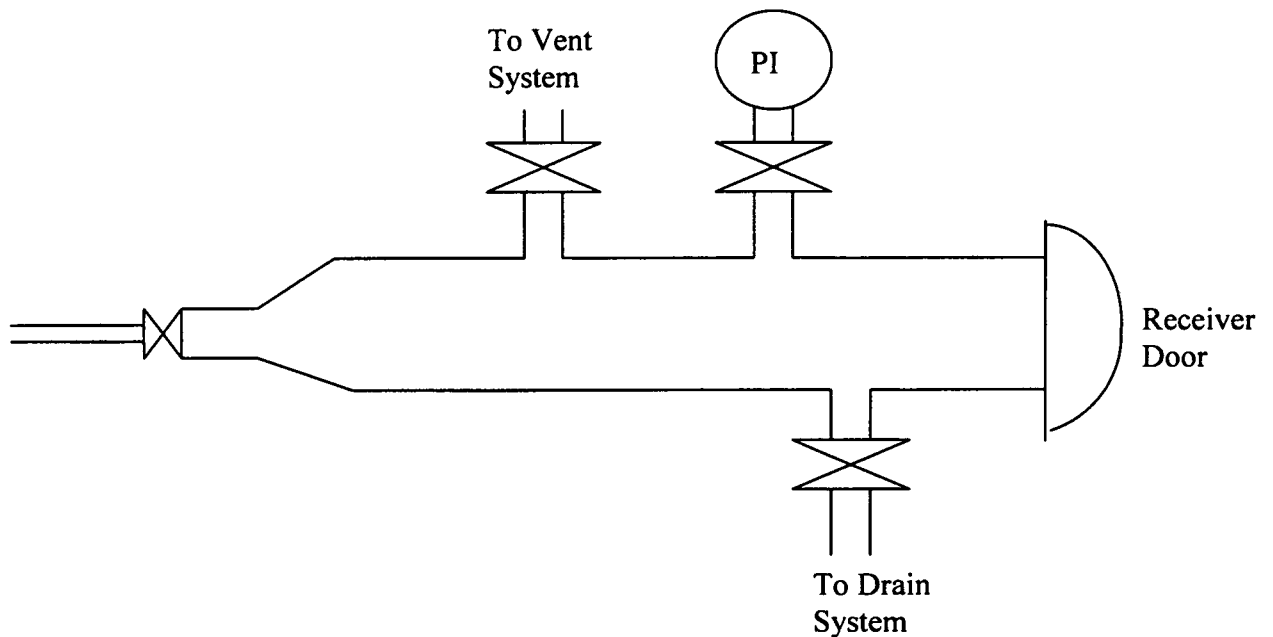

Figure 1
- b) The gas/condensate pipeline pig receiver shown in figure 1 is to be opened so that the pig can be removed. Carry out a risk assessment to enable the work to be carried out safely. [12]